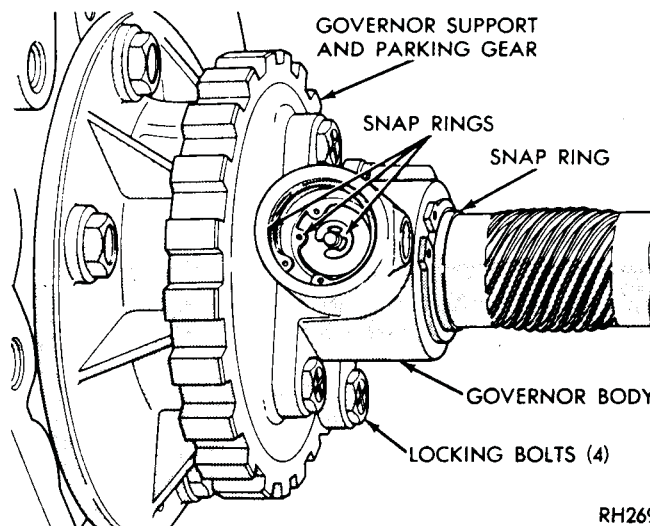

Fig. 10—Governor Snap Rings
(1) Remove extension housing and output shaft bearing as previously described.
(2) Carefully pry snap ring from weight end of governor valve shaft (Fig. 10). Slide valve and shaft assembly out of governor body.
(3) Remove large snap ring from weight end of governor body, lift out governor weight assembly.
(4) Remove snap ring from inside governor weight, remove inner weight and spring from the outer
- (1) Assemble governor body and screen to the support and tighten bolts finger tight. Make sure oil passage of governor body aligns with passage in the support.
- (2) Position support and governor assembly on the output shaft. Align assembly so valve shaft hole in governor body aligns with hole in the output shaft, then slide assembly into place. Install snap ring behind governor body (Fig. 10). Tighten the body to support bolts to 95 in. lbs. (11 N·m). The support bolts have a self-locking nylon patch and can be reused.
- (3) Assemble governor weights and spring, and secure with snap ring inside of large governor weight. Place weight assembly in governor body and install snap ring.
- (4) Place governor valve on the valve shaft, insert assembly into the body and through governor weights. Install valve shaft retaining snap ring. Inspect valve and weight assembly for free movement after installation.
- (5) Install output shaft bearing and extension housing as previously described.